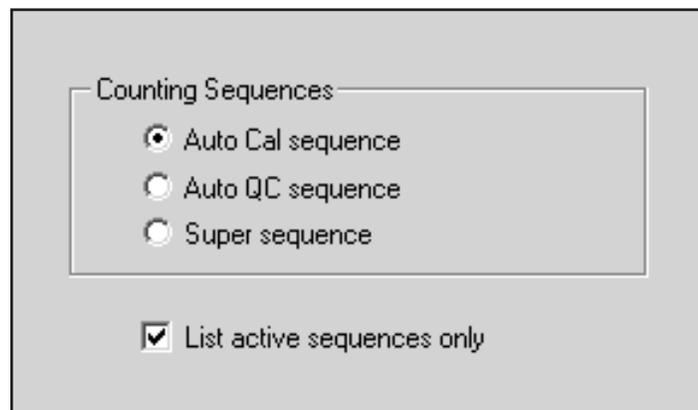

Figure 125 Initial Sequence Manager Screen
Eclipse LB provides you with a convenient method to define a series of procedures to run in a specified order. The Eclipse LB Sequence Manager can be initiated using either of two methods. From the **Manage** menu, choose **Sequences** or from the toolbar select the **Sequence Manager (SM)** button. The initial Sequence Manager screen (Figure 125) appears allowing you to select and create, or edit, a counting sequence. There are three types of counting sequences that can be defined. They are: AutoCal Sequence, AutoQC Sequence, and Super Sequence.